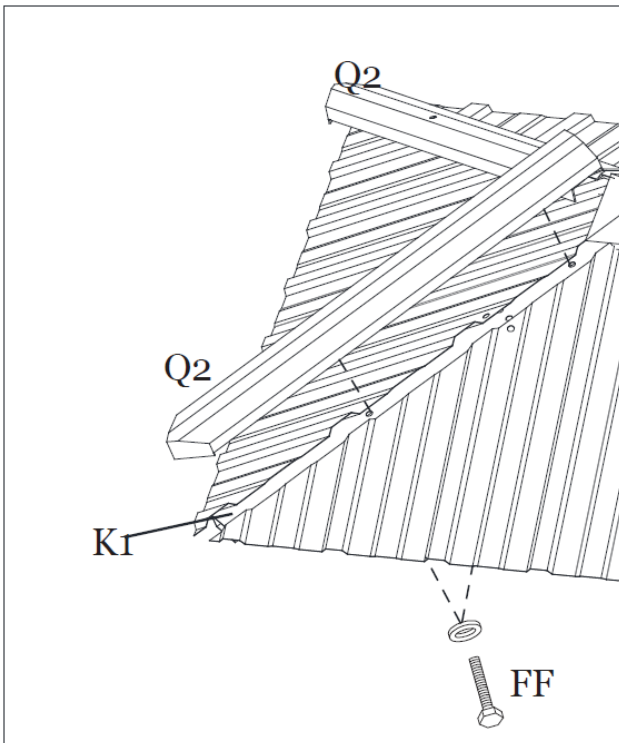

Figure 11-1
Step 11A: Attach the Roof Vent Corner Trim (Q2) to the Roof Vent Corner Support (K1) using Bolts (FF). See Figure 11-1.